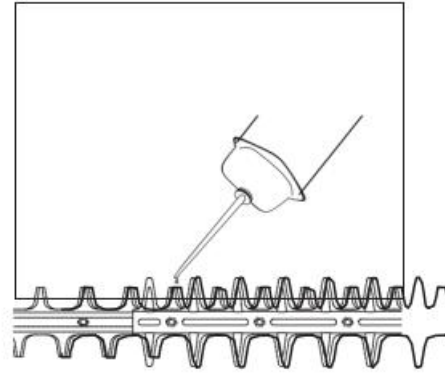

Fig 12
2. Lay the pole hedger on a flat surface. Spray the anti-rusting oil along the edges of the blades. Run the pole hedger for a while to distribute the oil evenly on the blade surface (Fig 12).